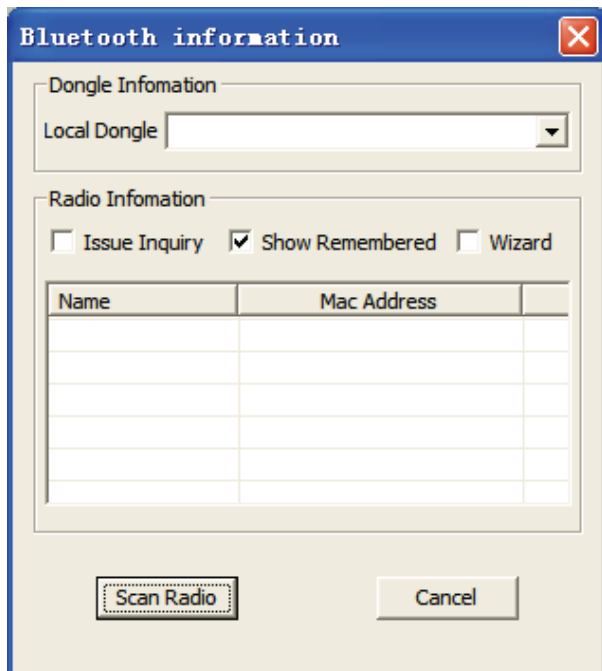

Figure 3-11
(1). Select “Show Remembered” in the interface as shown in Figure 3-11, and click “Scan Radio” or “Rescan Radio”